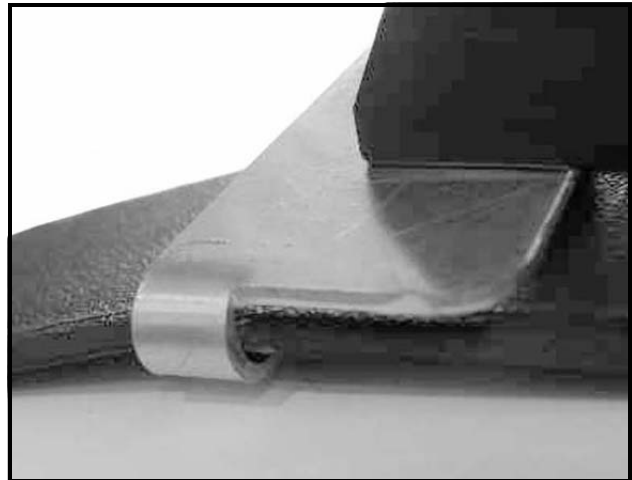

Figure 8 Slide Aluminum Bracket Under Cowl Trim
- 2.4. With brackets attached to blower, slide the bent part of the aluminum bracket under the cowl trim as shown (**Figure 8**).